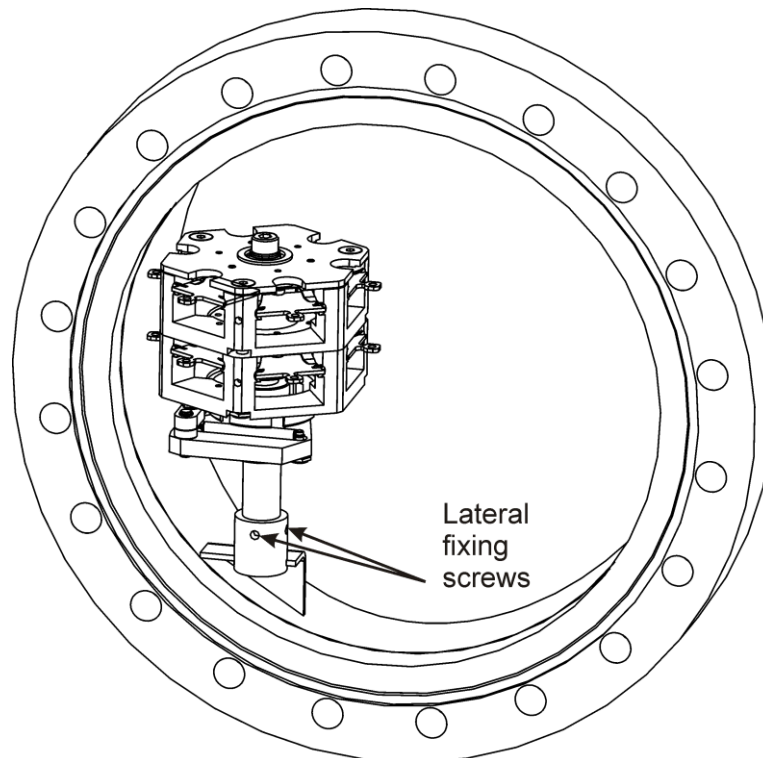

Figure 15. Mounting position of the carousel.
- Sit the carousel onto the nipple of the VT STM XA chamber, see figure 15, and fix it with two lateral screws using an Allen key.